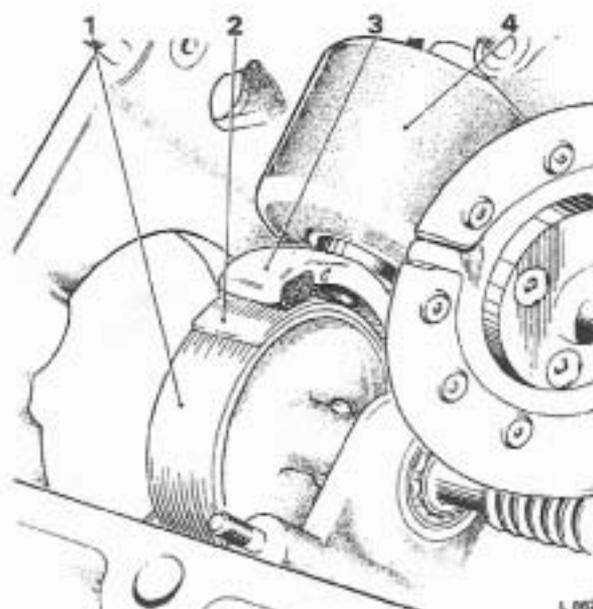

FIG. T151 SETTING THE SOLENOID BRAKE (EARLY CARS)
25. Push the solenoid assembly in the direction of the brake drum until the brake shoe abuts the metal strip (see Fig. T151).